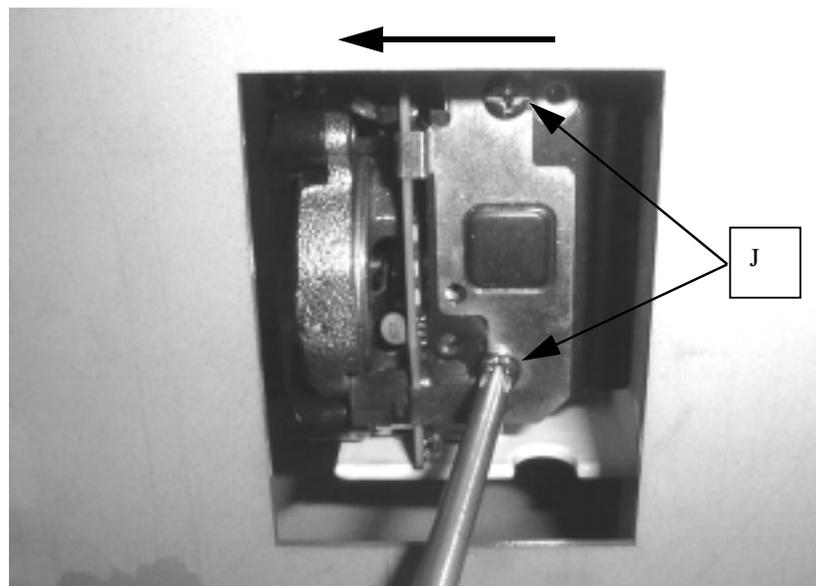

FIGURE 2-17
16. Fix the gearbox rear cap and the bobbin thread sensor by two setscrews(J). In this case, press the bobbin thread sensor to the hook race body(unit) shown by an arrow as shown in Fig.2-17.